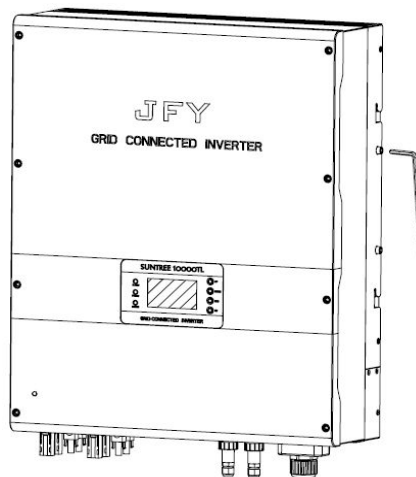

Fig.6 Fix safety-lock screws
**NOTE:** Ensure **SUNTREE xxxxTL** is not exposed to direct sun radiation or other external heat sources, including heat from units below it (see fig.6). Indeed, the heat generated by the inverters of the bottom rows could increase ambient temperature to the detriment of the inverters located in the top rows. At temperature above 50°C, output power of the top row units could be derated.
connection system should be designed and implemented by a qualified technician. JFY-tech also provides the solar inverter with an integrated DC switch demonstrated in dashed border in Fig.6. –S suffix indicates the inverter is integrated a DC switch in PV input side.